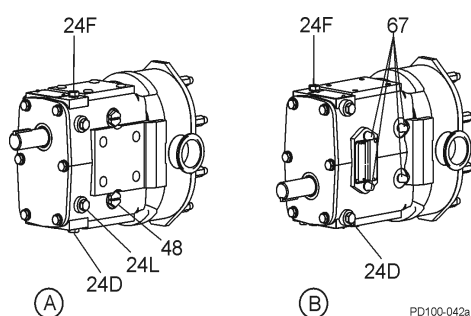

Figure 24 - Lubrication Points
Excess grease will accumulate in the gear case and must be removed through the cleanout hole covered with a plastic plug (Figure 24, item 48).